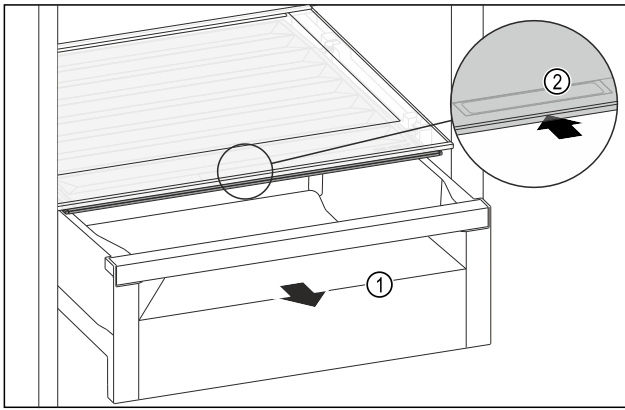

Fig. 146
- Pull out the drawer Fig. 146 (1).
- Grasp the recessed grip Fig. 146 (2) on the compartment lid and push the compartment lid backwards at the same time.